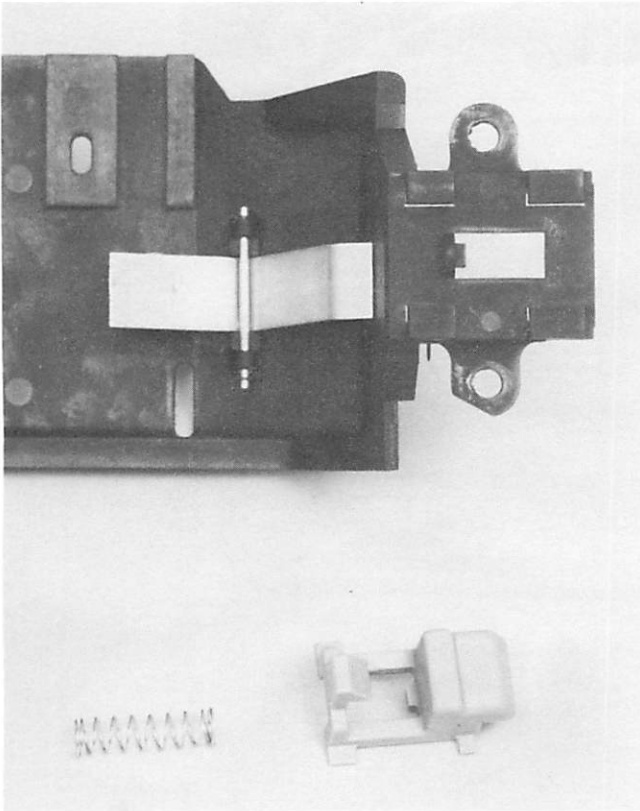

Figure 4-20.
3. Push the latch backward until the side lugs clear the guides in the housing, then lift up. See Figure 4-20.